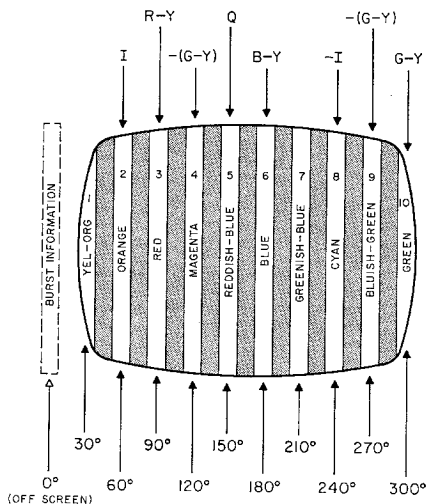

Figure 3. Gated Rainbow
Step 2. Adjust the receiver's saturation, brightness and contrast controls to produce a pleasing color pattern. Ten individual color bars should be visible on the face of the screen (See Fig. 3).